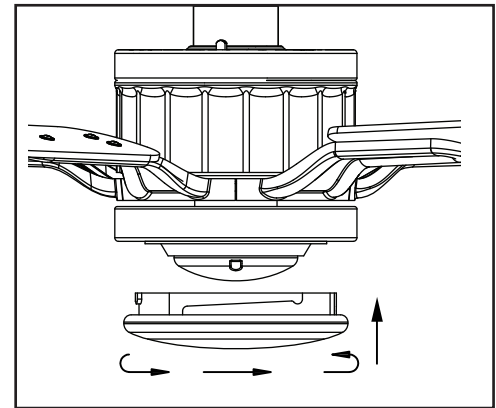

Figure 18
5. Place the light shade into the light kit pan, aligning the three flat areas on the top of the light shade with the three raised dimples in the light kit pan. Turn the light shade clockwise until it stops. (Figure 18)